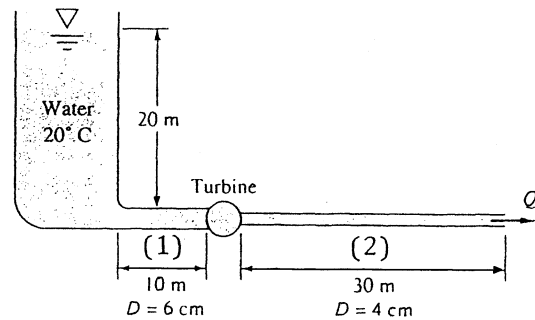

Fig. P6.76
6.76 The small turbine in Fig. P6.76 extracts 400 W of power from the water flow. Both pipes are wrought iron. Compute the flow rate Q m^3/h . Sketch the EGL and HGL accurately.